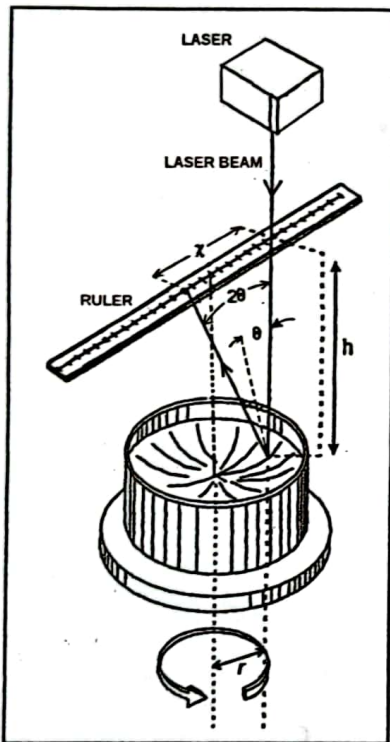
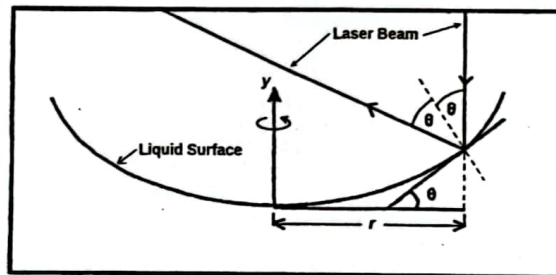

Figure 1. Overall Schematic Diagram of Apparatus
Figure 2. Cross-section of the Profile of the Rotating Liquid
As shown in Fig. 1, the apparatus consists of a cylindrical bowl of glycerin mounted on a turntable, whose rate of rotation is controlled by a variable power supply.
1. With the turntable at rest, turn on the laser and adjust the beam and the ruler so that the beam passes through the ruler at the 15 cm mark, and that the beam reflects back from the motionless liquid and passes through the same point, assuring that the beam is vertical. Carefully move the turntable so that the vertical beam strikes the mark at the center of the glass container. Slightly loosen the clamp holding the laser to the bench and slide the laser back and forth, adjusting the ruler as needed to make sure the laser beam passes through the ruler at the same distance from the edge of the ruler at all points. When this is done, re-position the laser beam at the 15 cm mark and move the turntable (if necessary) so that the laser beam again hits the center of the glass container. **Measure the height  $h$  from the ruler to the surface of the liquid, and be sure that the ruler is horizontal.** (see Fig. 1)
4. Now move the laser so that the incident beam crosses through the ruler at the 16 cm mark. You have now moved the incident beam so that it hits the liquid a distance  $r = 1.0$  cm from the center of rotation, as shown in Fig. 1. **Record this value of  $r$ .**
5. Notice that the reflected laser beam also moves away from the center of rotation. Again referring to Fig. 1, we see that the reflected beam strikes the ruler a distance  $x$  from the point at which the incident beam strikes the ruler. **Record this value of  $x$ .** Repeat the measurement of  $x$  with the incident laser beam at the 14 cm mark, and **also record this value of  $x$ , which ideally should be the same in magnitude as the previous  $x$ .** If it is not, you will later take the average of the two  $x$  values.
6. Your values of  $x$  and  $h$  will be used to determine  $\theta$ , the slope angle of the liquid a distance  $r$  from the center of rotation. From Fig. 1, we see that  $\tan(2\theta) = x/h$ . The reason the angle is  $2\theta$  can be seen from Figure 2. The slope angle  $\theta$  of the rotating liquid can then be determined from